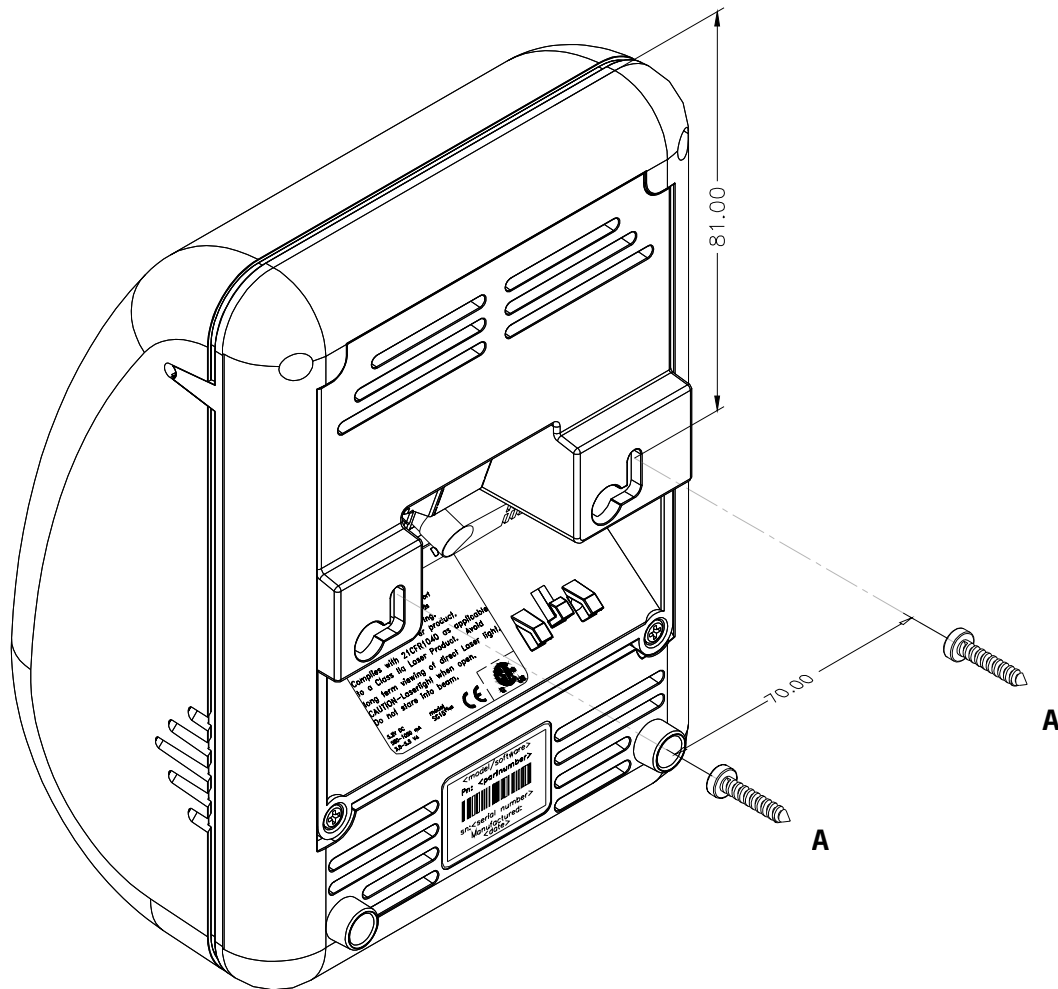

fig 3.1
3. Connect the power cable and the communication cable of the Shuttlec (see figure 3.1 above).